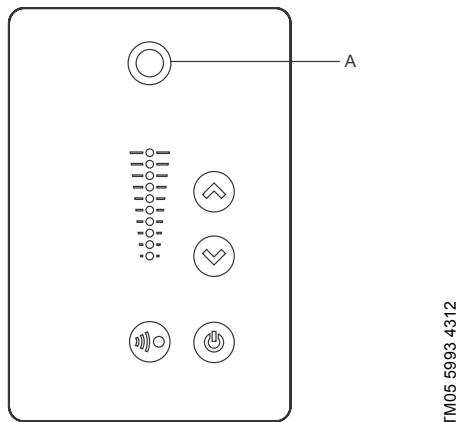

Fig. 83 Grundfos Eye
The operating condition of the motor is indicated by Grundfos Eye on the control panel. See fig. 83 (A).